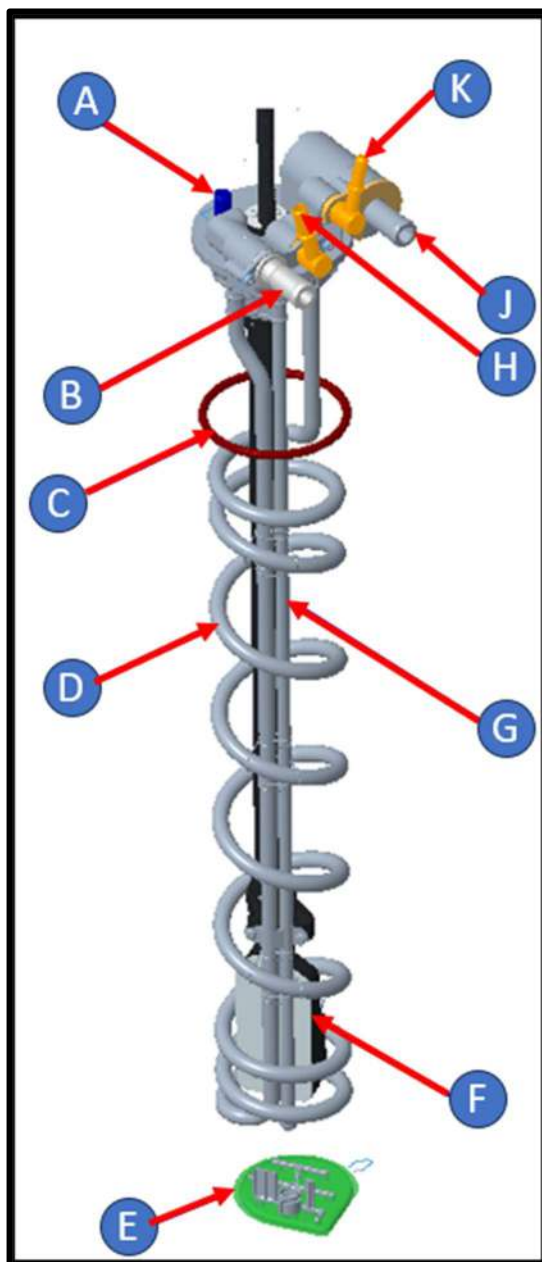

Figure 2.2 Multifunction Head Unit
- 12) Install coolant inlet hose and clamps per OEM service procedure. If needed use provided hose and clamps. Refer **Figure 2.2** for coolant inlet fitting location.
- 13) Install coolant outlet hose per OEM service procedure. Refer **Figure 2.2** for coolant outlet fitting location.